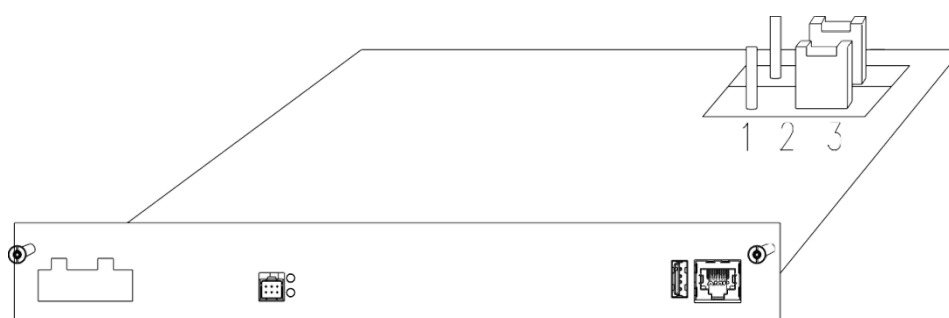

Figure 5.27 Resistance Setting Diagram
- Remove the CAN3 resistors from three Dispenser A, B, C. As shown in Figure 5.27. Move the resistor to pin 2 and 3.